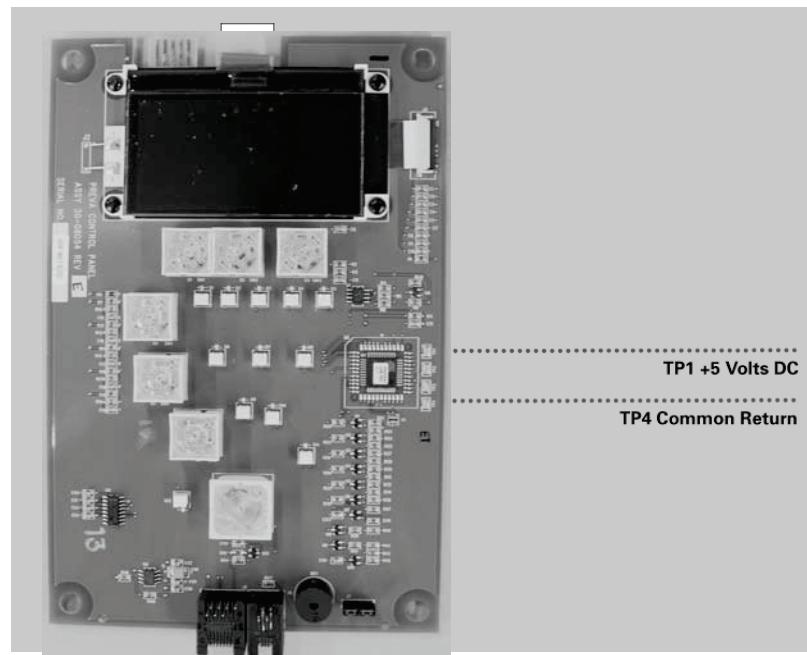

Figure 48
7. If the power supply voltages are present, and the ribbon cable and communication cable are found acceptable, open the Operator Panel case and measure for the presence of +5 volts DC across TP1 and TP4 of the Operator Panel Board, as shown in Figure 48. Absence of this voltage indicates the need to reconfirm the power supply voltages and communication cable. Presence of the voltage requires the replacement of the Operator Panel Board.